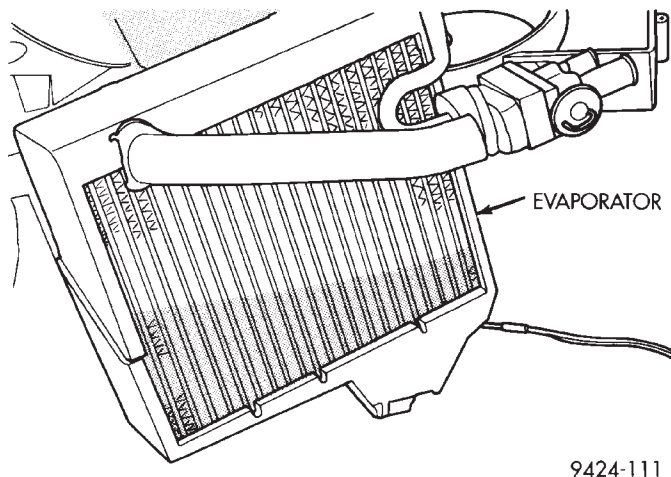

Fig. 73 Evaporator Removal
- (19) Remove evaporator assembly from lower housing (Fig. 73).